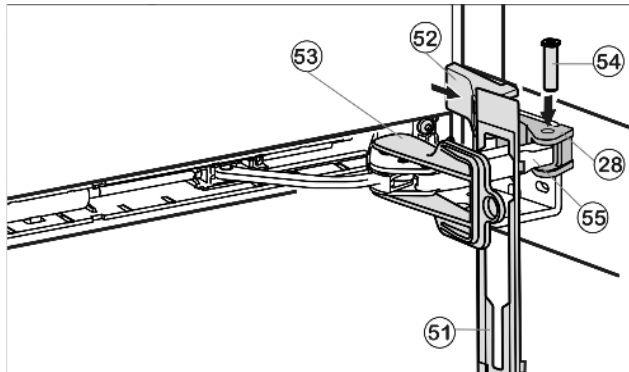

Fig. 35
- ▶ Hook panel Fig. 35 (51) into the damper bracket such that the detent hooks are pointing forward and the front side is facing the appliance.
- ▶ Pull damper bracket Fig. 35 (55) towards bearing part Fig. 35 (28) and insert bolt Fig. 35 (54) from above such that the square is resting in the recess.
- ▶ Place cover Fig. 35 (52) on top and snap into place.
- ▶ Remove locking device Fig. 35 (53) by twisting it.
- ▶ Snap panel Fig. 35 (51) into place on the door.